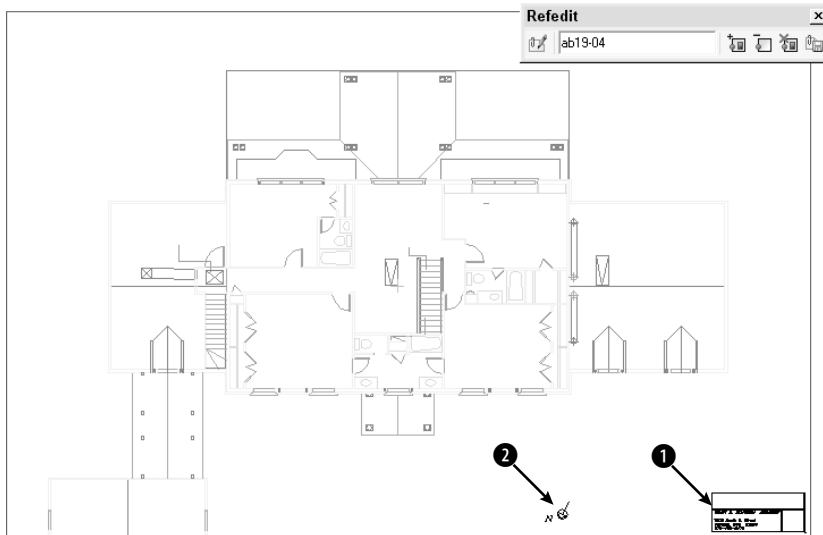

Figure 19-7: The title block is an xref in the drawing of the floor plan.
4. Double-click the title block. The Reference Edit dialog box opens. Choose `ab19-04.dwg`. It is displayed in the preview box. Click **OK**. The Refedit toolbar opens, and you can now edit the xref. Your screen should look like Figure 19-7.
6. Choose **Draw** ⇨ **Text** ⇨ **Single Line Text**. At the Specify start point of text or [Justify/Style]: prompt, pick ① in Figure 19-7. At the Specify height <0'-0 3/16">: prompt, type **10** ↵. Press Enter again for the rotation angle.
9.  Select the letter N and arrow symbol at ② in Figure 19-7. To transfer these objects from the xref to the floor plan drawing, choose **Remove from Working Set** from the Refedit toolbar.